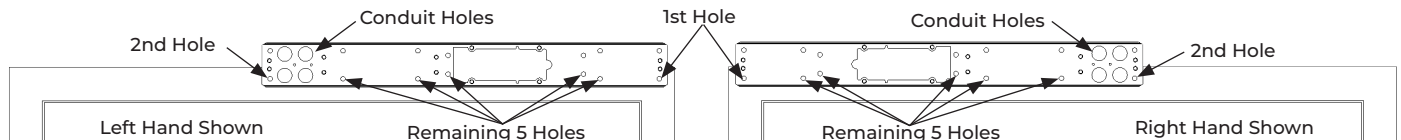

Fig. 3
4. Ensure backplate is aligned with door frame. Using the backplate as guide, mark and drill second mounting hole. (Fig. 3)
6. Using the backplate as a guide, drill and tap remaining five (5) holes in frame. (Fig. 3)
7. Secure with additional five (5) screws and tighten all screws.
8. **For concealed wiring:** Using the backplate as a guide, mark and pre-drill two (2) conduit holes with the 3/16" drill. Then use the Ø7/8" hole saw or equivalent to drill two (2) conduit holes.